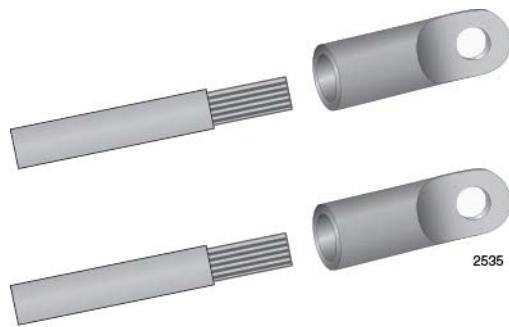

Figure 133. Attaching the Power Wires to the Straight Terminal Lugs
2. Insert the power wires into the terminals included with the power supply and use a crimping tool to secure the wires to the terminals. See Figure 133.